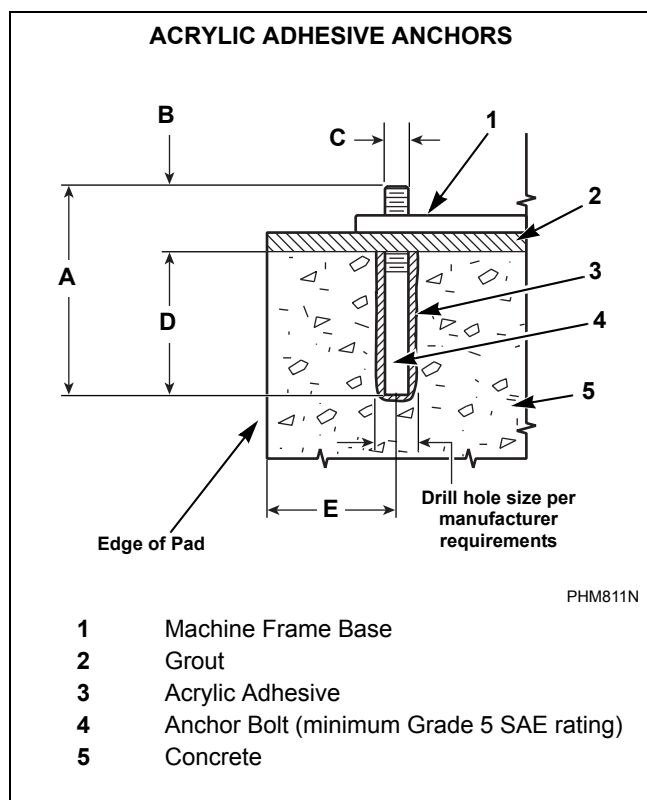
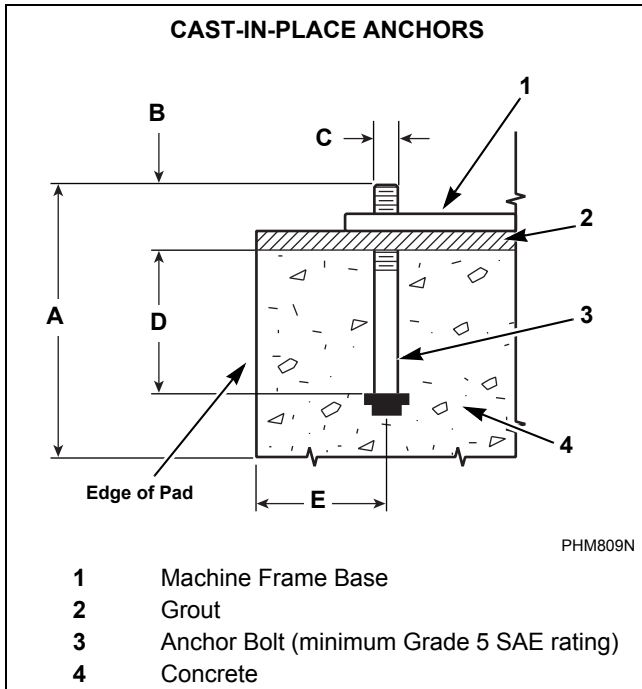

Figure 36
Figure 37
- NOTE: As an alternate method, cast in the Grade 5 (minimum SAE rating), 5/8 inches (16 mm) for 20 - 60 pound models and 3/4 inch (19 mm) for 80 - 125 pound models anchor bolts as the concrete is poured, refer to *Figure 37*. Ensure that the bolt threads extend a minimum of 2.5 inches (64 mm) above floor level and a minimum of 3.5 inches (89 mm) for 20 - 60 pound models and 5.5 inches (140 mm) for 80 - 125 pound models if the bolt is embedded in concrete.**
NOTE: After the concrete has cured completely and the cast-in-place method was used, refer to *Figure 37* and proceed to step 7. If acrylic adhesive anchors are desired, refer to *Figure 36* and proceed with step 1 after concrete has cured completely.